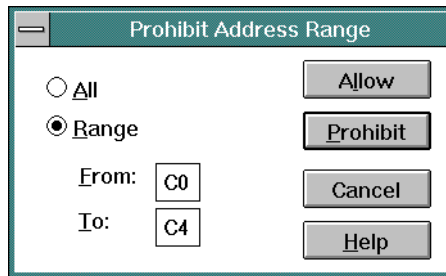

Figure 3-15. Block Address Range Dialog Box
- b. Click in the *From* box and enter the address of the first port on the port card. Then click in the *To* box and type in the address of the last port on the card. Figure 3-15 shows ports C0 through C4 blocked.